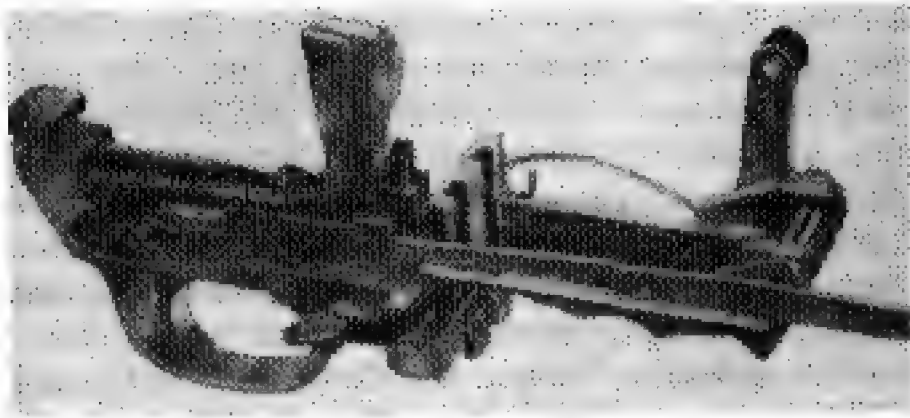

Figure 38. Functioning of trigger housing group.
a. Since the carbine begins to function when you squeeze the trigger, you first learn how the trigger housing group works (Fig. 38).
- (1) Remove the trigger housing group and cock the hammer. The hammer is held in the cocked position by the sear nose engaging the sear notch on the hammer. Hold your left thumb over the hammer and slowly squeeze the trigger. Notice how the trigger lip moves upward and contacts the rear of the sear. This action forces the sear to pivot about